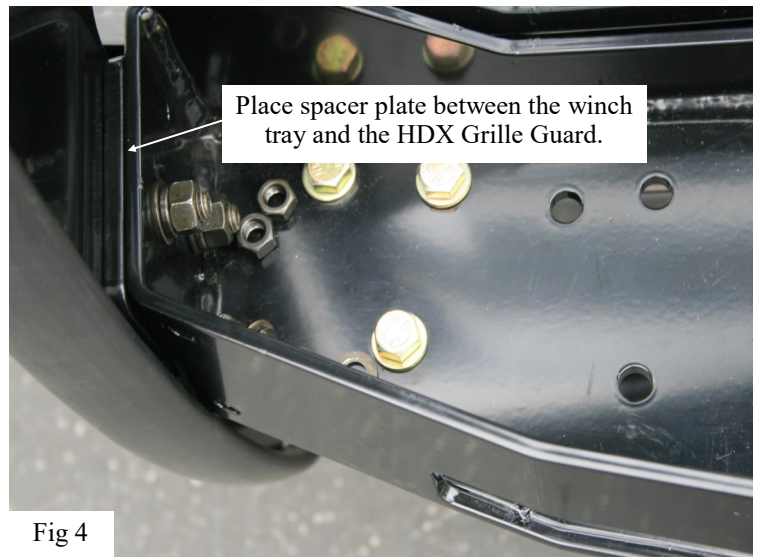

Fig 4
8. To install the Sportsman grille guard on 2011+ vehicles, take the grille guard and align it to the outside of the winch tray, take the (2) thick spacer plates and place them between the grille guard and the winch tray, attach the grille guard to the winch tray using (4) M12x 45mm button head bolts, (8) M12 flat washers, (4) M12 lock washers, and (4) M12 hex nuts. To attach the grille guard to the mounting bracket take (2) 28mm round spacers and place them between the mounting bracket and the grille guard, attach using (2) M12 x 75mm button head bolts, (4) M12 flat washers, (2) M12 lock washers, and (2) M12 hex nuts. Do not fully tighten at this time Fig 4.